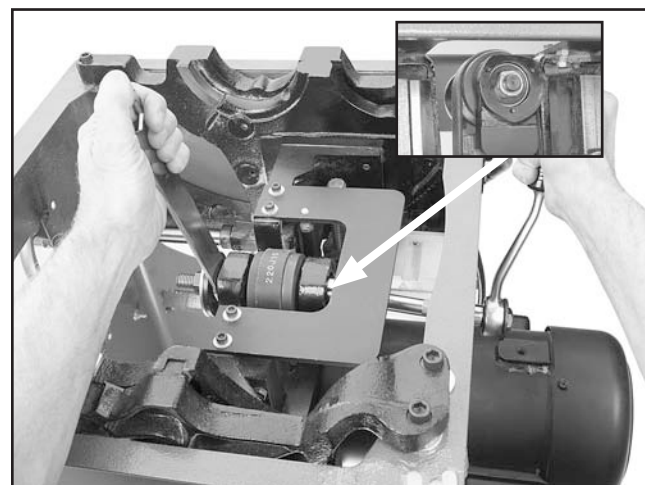

Figure 135. Removing arbor lock nut. (Inset: arbor lock nut.)
11. Place the open end of the arbor wrench on the arbor, and while keeping the arbor stationary, use a 25mm wrench to loosen and remove the lock nut at the other end of the arbor, as shown in **Figure 135**.